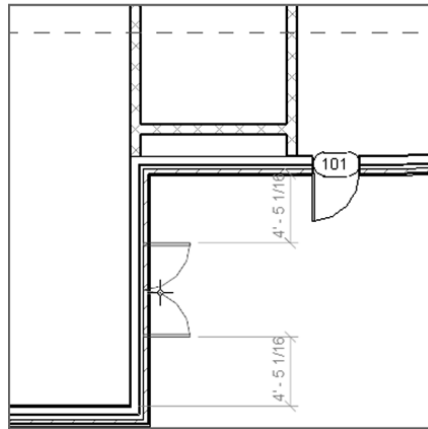

FIGURE 2.71: Placing the double doors
5. Place the double doors in the wall, as shown in Figure 2.71. Click Modify.